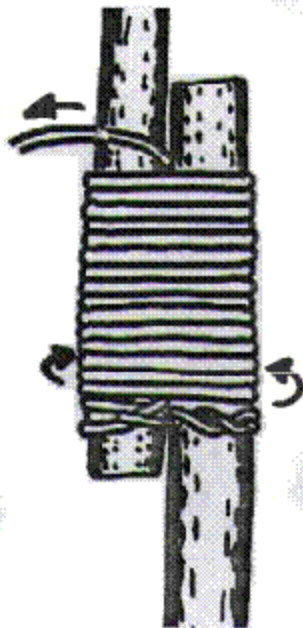

FIGURE 11
2. You will now need to make 8 to 10 WRAPS around the SPARS (see FIGURE 11).
2. You will now need to make 7 to 8 loose WRAPS around the SPARS (see FIGURE 11).